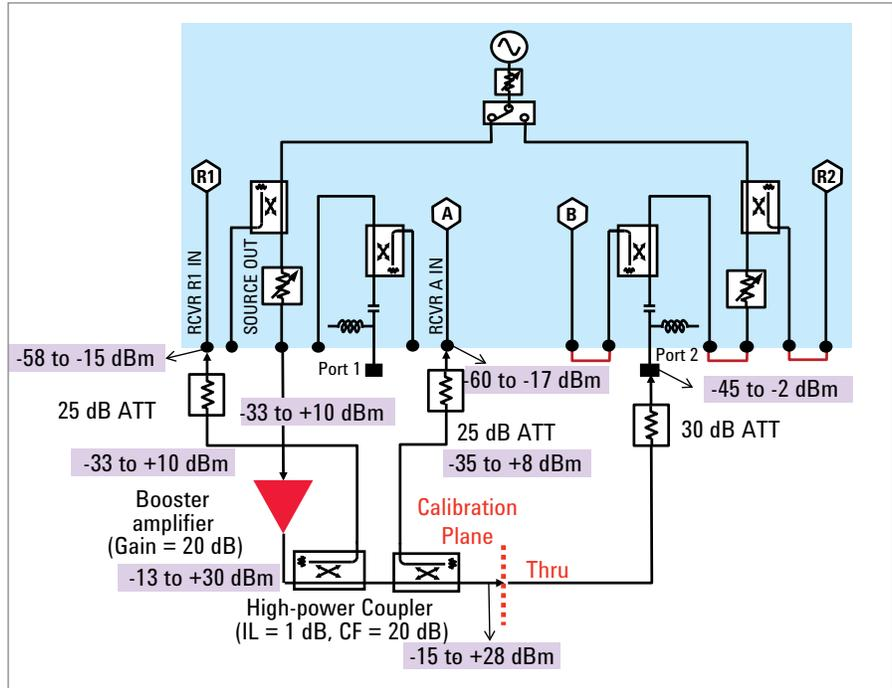

Figure 11. Connecting thru standard for calibration measurement
- (3) Connect thru standard and perform calibration measurement (Figure 11)